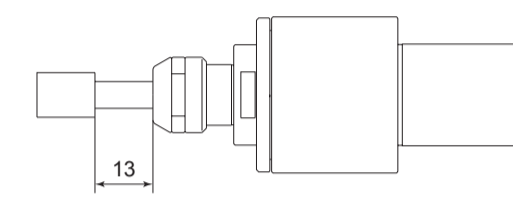

Fig. 17
- Do not exceed 13mm of overhang for mounted grindstones as shown in Fig. 17. If the overhang must exceed 13mm, reduce the speed in accordance with Table. 3.